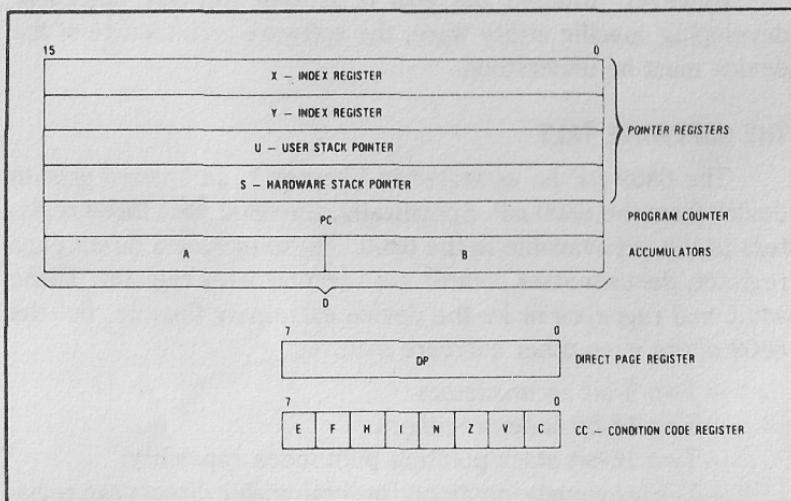
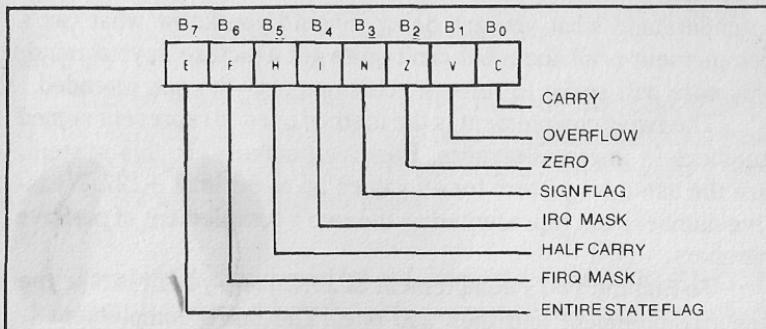

Fig. 2-1. Programming model of the microprocessing unit (courtesy of American Microsystems, Inc.).
Fig. 2-2. Condition code register format (courtesy American Microsystems, Inc.).
As you can see, the device is extremely flexible and offers the software designer a great deal of power in a microprocessor. Figure 2-1 is the basic programming model for the 6809 µP. You will notice that the X and Y index registers are 16-bits wide, and the U and S stack pointers are also 16-bits. The interesting register is made up of two 8-bit registers, A and B, which together make up D. It is within these three registers—*accumulators*—that most of the processor's work will be done. The direct page and condition code registers are 8-bits wide and provide programming enhancement that will be explained later.
Taking a look at Fig. 2-1, you can see that within the structure there are the X and Y 16-bit index registers. These are also referred to as the *pointer registers*.
Stack pointers U and S, shown in Fig. 2-1, can also be used as index registers, but they serve very specific purposes in processing. The *Hardware Stack Pointer* (S) is used by the processor during subroutine calls and interrupts. The difference between this stack pointer and that on the 6800 μ P is that it points to the top of the stack rather than the next free location (Table 2-1).
The next registers, A, B and D accumulators, are made up of two 8-bit registers as shown by Fig. 2-1. The A and B registers are
The final register in the programming model of Fig. 2-1 is the condition code register (CC). Figure 2-2 is the format for this 8-bit